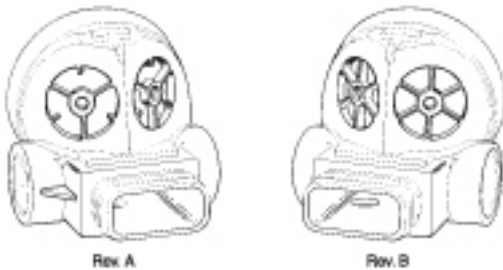

Figure 18 - Rev. A & Rev. B Identification
- Remove and discard the two exhaust valve diaphragms (7).
- Closely examine the exhaust valves inside the box bottom, and count the number of spokes in each valve to identify whether the box bottom is a Revision A part (three spokes) or Revision B (six spokes). (See Figure 18).